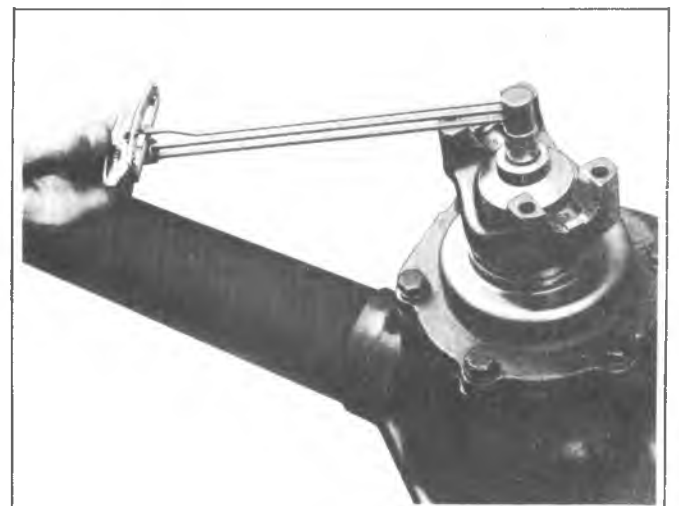

Fig. 15E-Measuring Rotating Torque
- b. Tighten pinion nut to approximately 350 ft. lbs., then take a torque reading as shown in figure 15E, using J-5853.